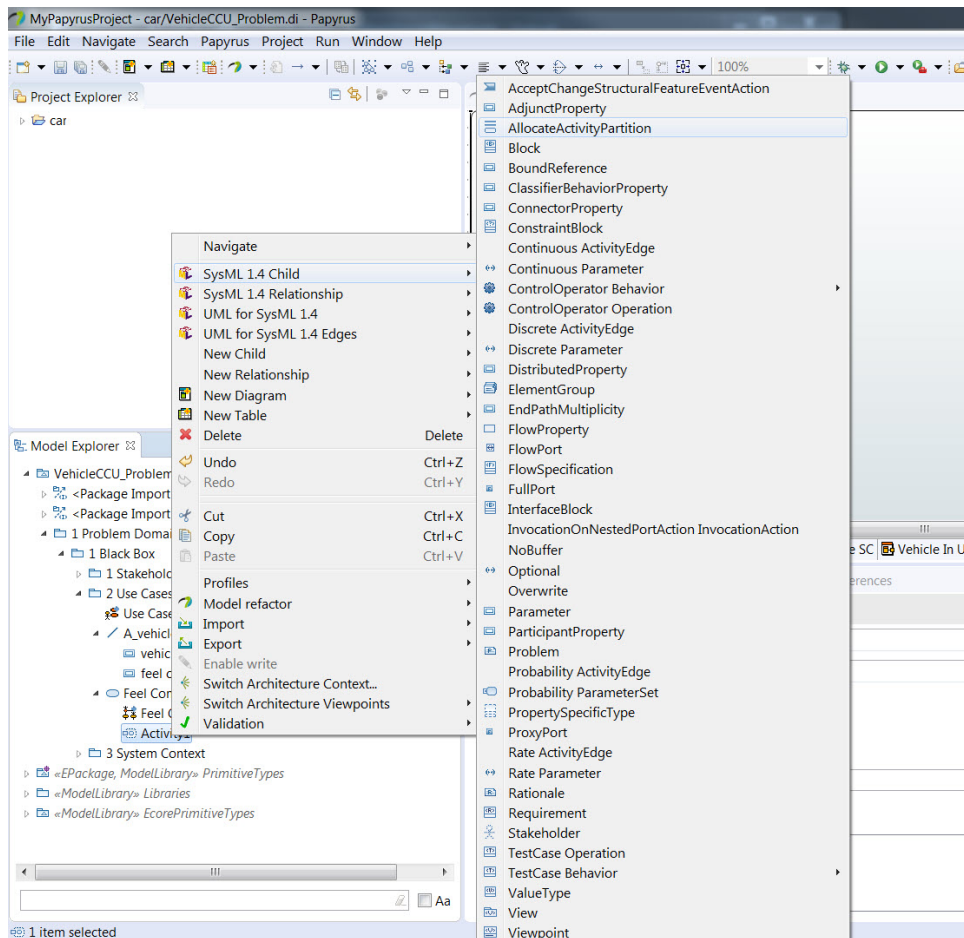
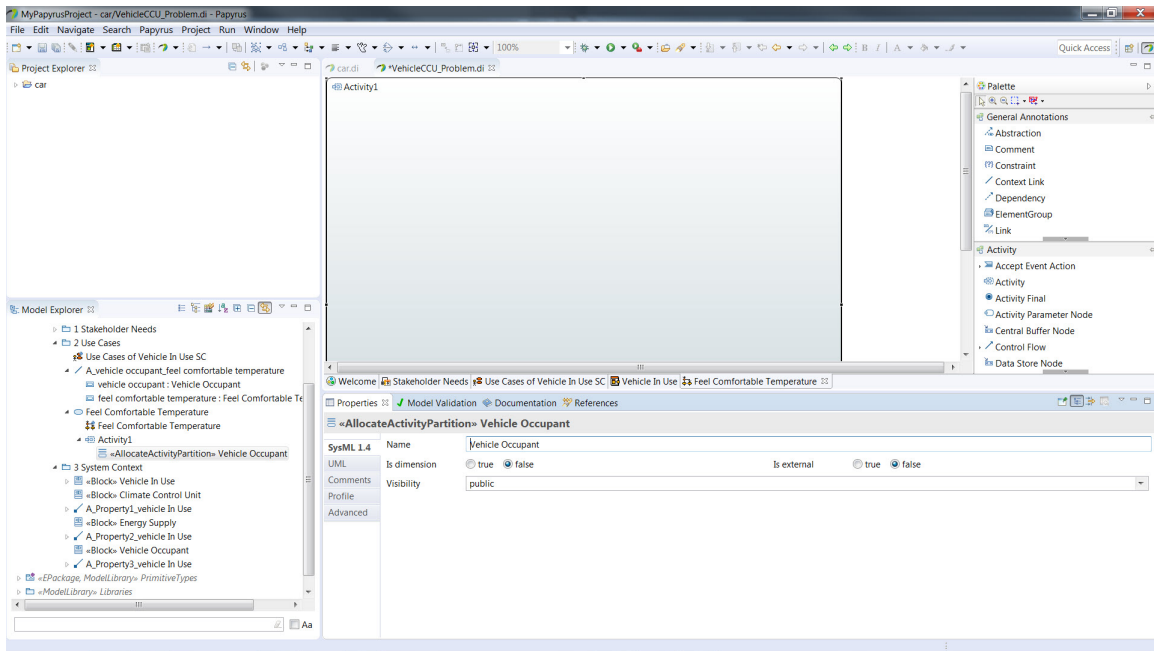
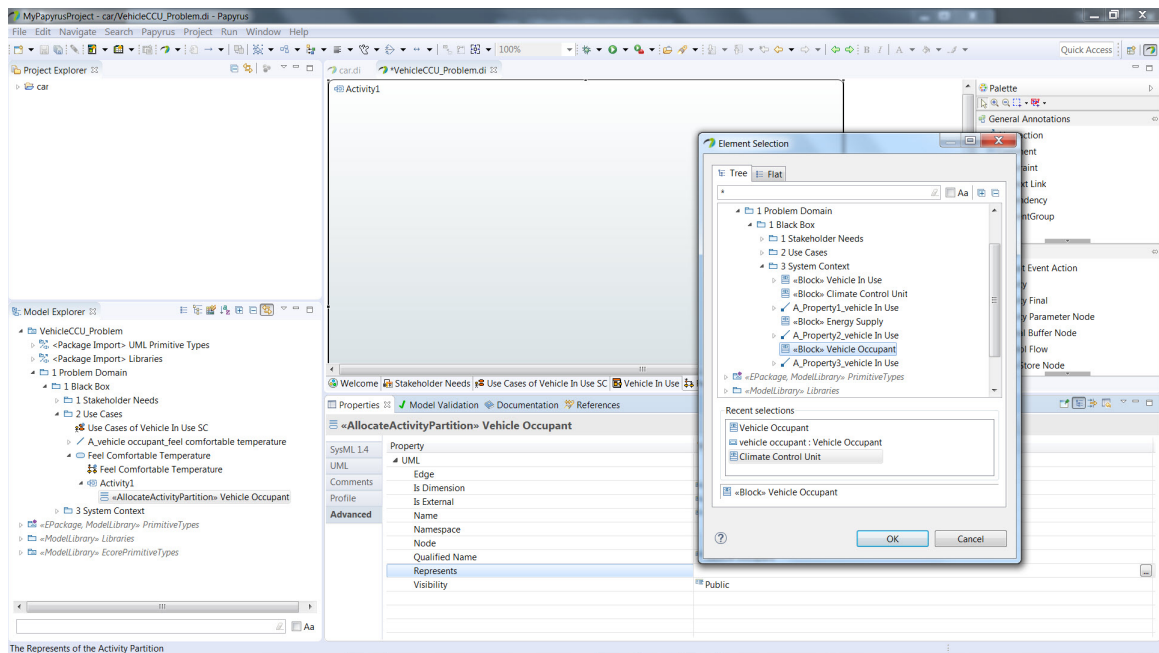
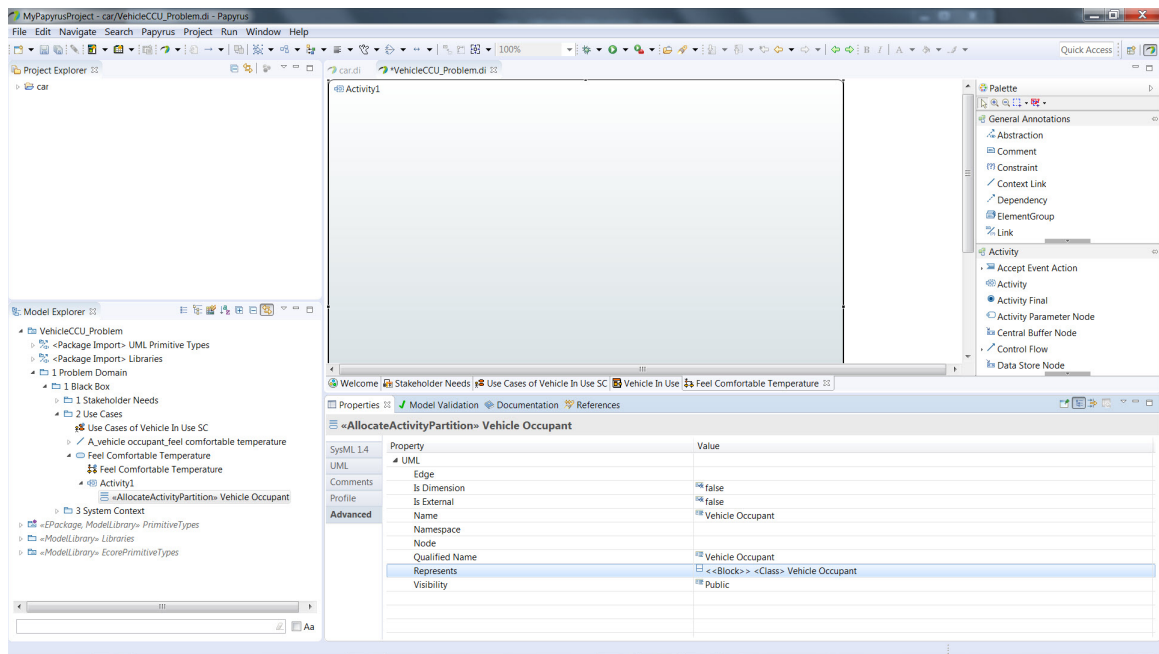

Figure 38: New Activity Partition (Swimlane)
Figure 39: Vehicle Occupant Activity Partition Creation
Figure 40: Vehicle Occupant Activity Partition Properties
Figure 41: Vehicle Occupant Activity Partition Typed by Vehicle Occupant Block
10. We could start diagramming our activities in the activity diagram first and then allocate the activities to participants using swimlanes. This is a little cumbersome in Papyrus as it involves dragging the activity boxes and connectors onto the swimlanes and some effort to make your diagram “pretty” again. If we know the participants in the activity we can go ahead and create the participant swimlanes first and then populate the activities. That is the approach we will follow. In the *Model Explorer* window Right-click on the *Activity 1* then select **SysML 1.4 Child** and then **AllocateActivityPartition** (figure 38). Name this partition *Vehicle Occupant* (figure 39).
11. Although we have named our new activity partition *Vehicle Occupant* it does not truly represent the vehicle occupant in our use case until we type it by the *Vehicle Occupant* block. We do this as follows. First ensure that the *Vehicle Occupant* activity partition is selected in the *Model Explorer* window and you see its properties in the **Properties** tab in the bottom center of the screen (figure 39). Now click on **Advanced** tab and look for the **Represents** property and Double-click in the **Value** cell and a pop-up element selection should appear (figure 40). Expand 3 *System Context* package and select the *Vehicle Occupant* and then select **OK**. The value of the **Represents** property should look like figure 41. Our activity partition is now typed by the *Vehicle Occupant* block.